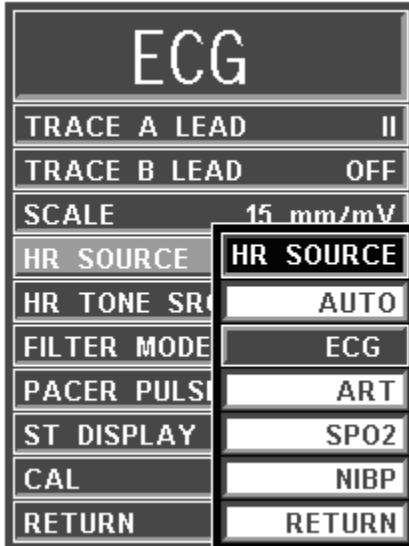

Figure 4-4. The HR SOURCE Menu
- d. **HR SOURCE.** Selecting this menu option allows the selection of the source to be used for the heart-rate display in TRACE A area. The options are AUTO, ECG (default), ART (arterial pressure), SPO2 and NIBP (See **Figure 4-4**). If operating a dual monitor system, with a 3155A and 3155MVS communicating with the 3150(M), the adjustments made here are interactive between the two 3155 monitors to ensure that the monitored parameters remain consistent between all components of the MRI monitoring system.
- (1) The heart rate is displayed in the ECG parameter box. It is annotated with its source (e.g., “60 P1” indicates a heart rate of 60, derived from the Invasive Pressure 1).
- (2) If AUTO is chosen, the heart rate is selected automatically from the highest-priority active input. When set to AUTO the **3155A/3155MVS Monitor** searches for another source for rate only when **LEAD FAIL** occurs or the ECG parameter is turned OFF. The priority, from highest to lowest, is ECG, P1, P2, SpO2, and NIBP.
- (3) The **3155A/3155MVS Monitor** examines the highest-priority active input. If not found, it will go to the next-highest priority parameter. If none of the parameters are presenting a heart rate and NIBP is shut off, then “NONE” is displayed on the screen in the heart rate position.
- (4) When the HR Source is set, the HR TONE SRCE (the next option) is automatically set to the same selection.
- (5) This menu option is identical to, and interactive with, the similarly named menu options under ART, SPO2, and NIBP.